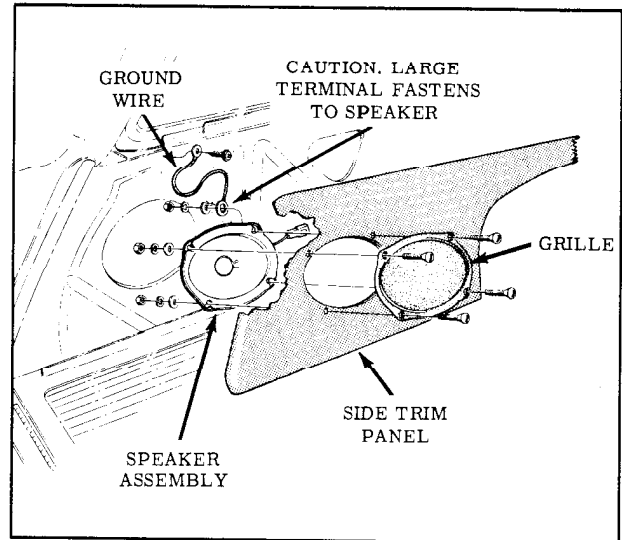

Fig. 15-18 Rear Seat Speaker (Fiestas)
3. Remove speaker assembly from the quarter panel. (Fig. 15-18)